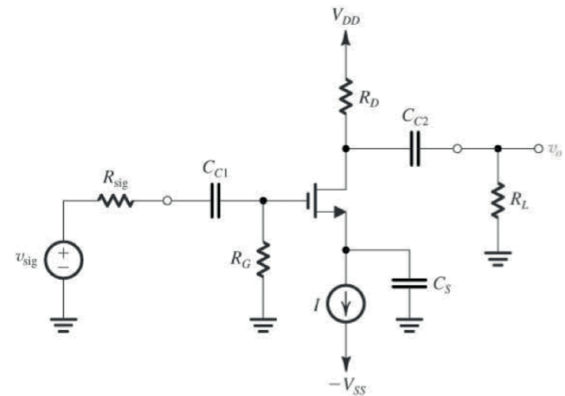

Figure 6: Common source amplifier
One typical MOSFET application is the common source amplifier seen in Figures 6 and 7. The input signal is applied to the gate through the coupling capacitor C_1 . The output signal of the outline in Figure 6 (voltage on R_L) is on the drain pin of the MOSFET and connected to the load through C_2 . Capacitors C_1 , C_2 and C_S are coupling capacitors and can be considered short circuits for the signals in the centre-band frequencies; the source pin (S) is therefore connected to ground for all analog input signals. Resistors R_1 , R_2 , R_D and R_S form a bias network. ●